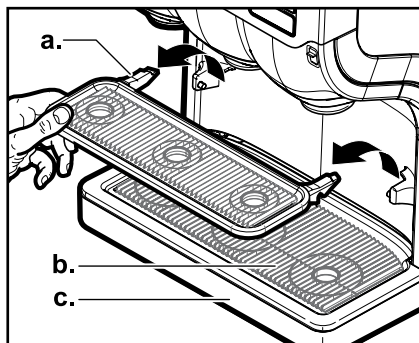

Fig. 27
2. Remove cup tray (a.), drip grid (b.), and drip tray (c.). (Fig. 27)